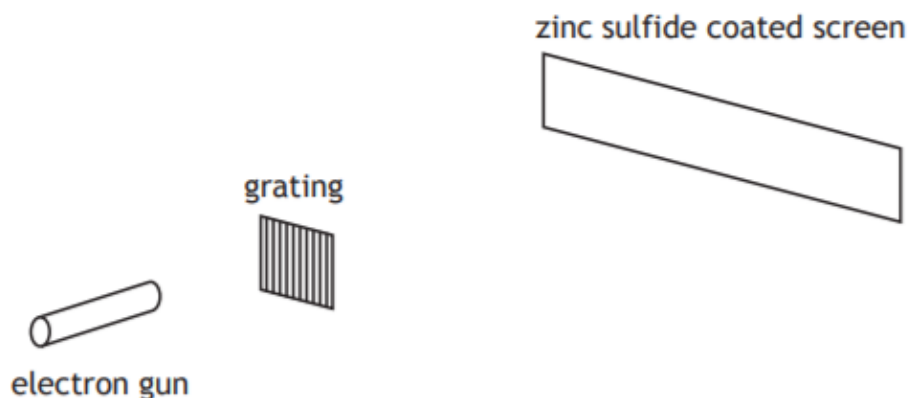

Figure 8A
8. A beam of electrons is incident on a grating as shown in Figure 8A.